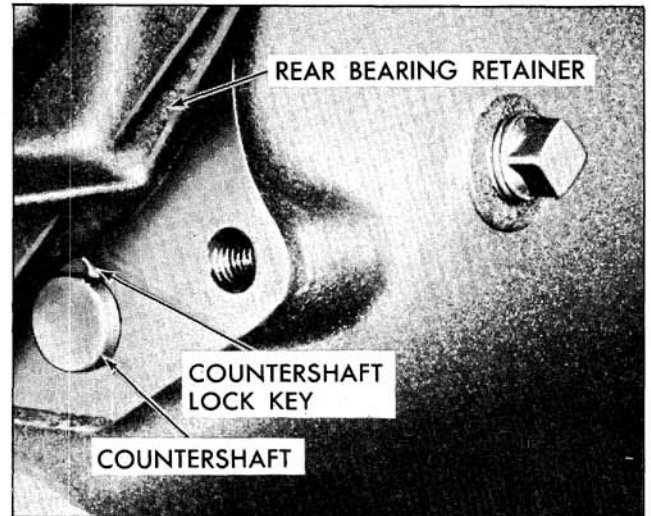

Fig. 7-36 Countershaft Location
3. Remove bolts holding rear bearing retainer to case and move rear retainer away from case approximately 1/2". Then rotate rear bearing retainer to expose countershaft and lock key. (Fig. 7-36)